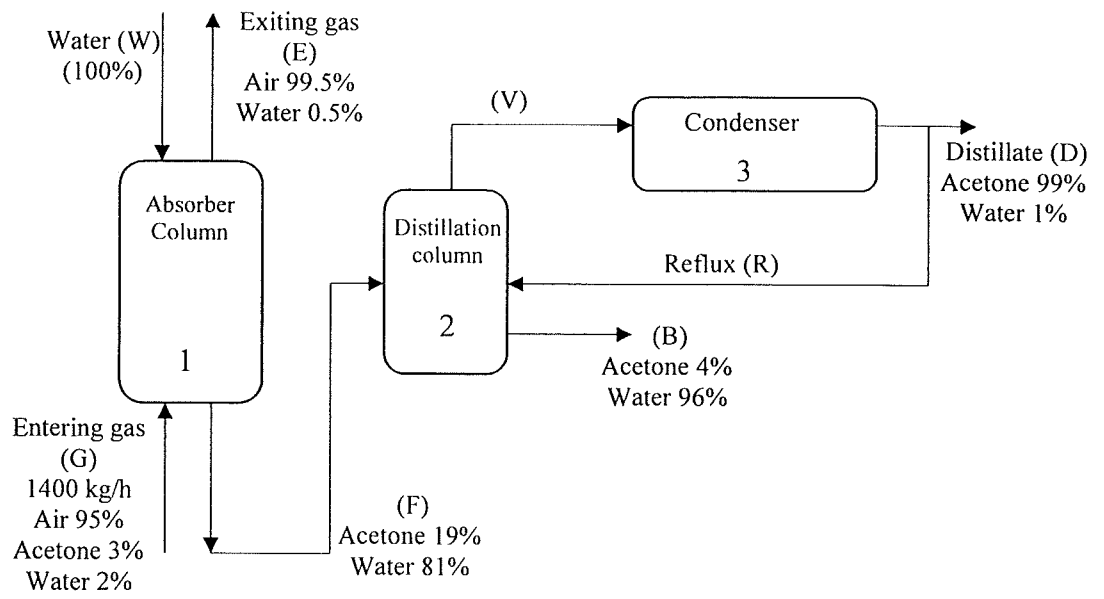

Figure 4 : Schematic diagram of absorption-distillation process
- (b). An absorption-distillation two-unit process of Polymer A is shown in Figure 4. The system is used to recover acetone from an acetone-air mixture (gas). In the absorber column, acetone in the gas mixture is absorbed by water which flows downward. The water-acetone mixture (liquid) from the absorber is then fed to the distillation column to separate acetone and water. The reflux ratio of the distillation column  $R/D = 1.51$  ( $D$ ,  $R$ , and  $V$  have the same composition). All the concentrations shown in the diagram are wt%. Calculate the flow rates (kg/hr) of  $W$ ,  $G$ ,  $E$ ,  $F$ ,  $B$ ,  $D$ ,  $R$  and  $V$ .